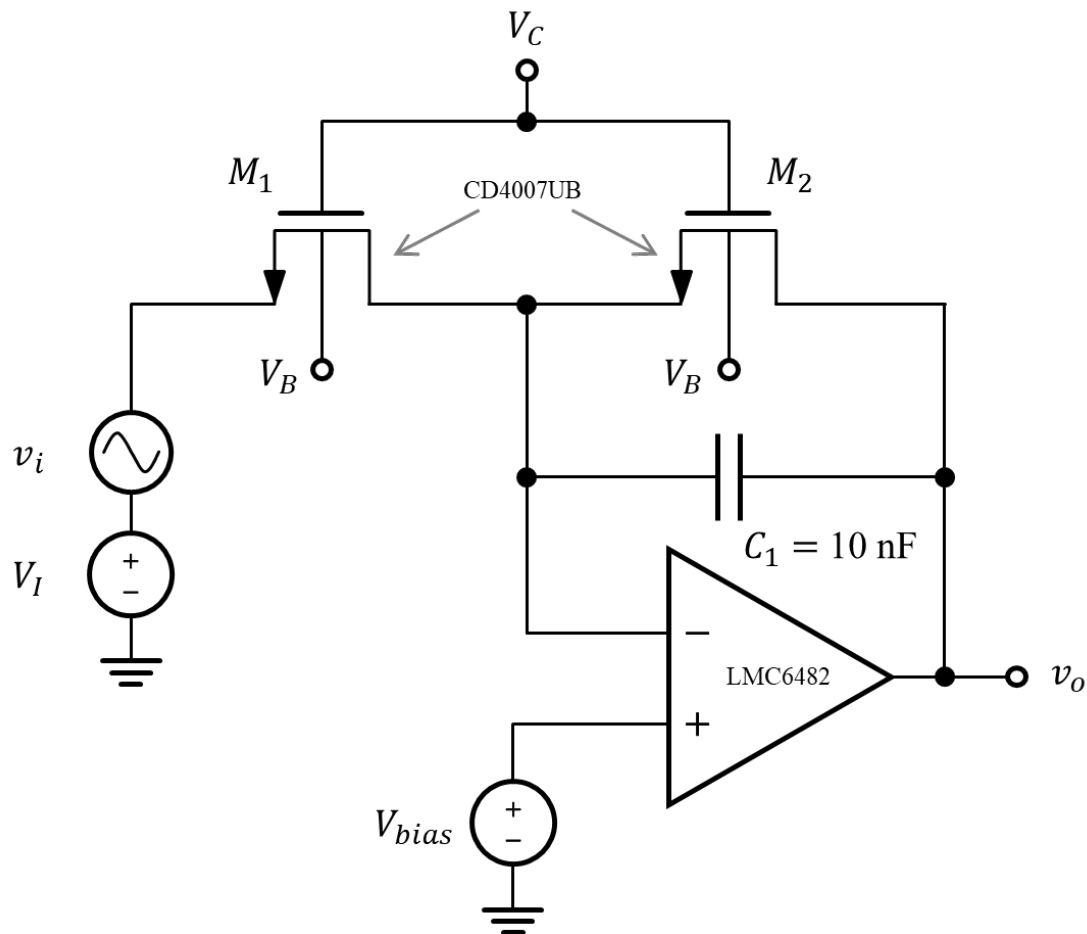

Figure L3.3 Bandwidth-controlled unity-gain amplifier circuit biased with the same scheme as the gain-controllable amplifier.
- (a) Hook up the circuit in Fig. L3.3 using the same voltage divider connected to the body terminals of your MOSFETs and the noninverting input of your op amp, being sure to measure the actual value of C_I using the capacitance meter on your DMM. Using the waveform generator, apply a 200 mV_{PP}, 1-kHz sine wave to the input of the circuit, again setting the offset V_I to be equal to the measured value of V_{bias} . Use the oscilloscope or the network analyzer to measure the low frequency gain v_o/v_i and 3-dB bandwidth of this amplifier for values of control voltage V_C ranging from 0 V to 5 V, in steps of 1 V. Again, be sure to record the actual DC gate-to-source voltage V_{GS} for each value of V_C . Even if you choose to use the network analyzer, you must include at least one scope plot for each value of V_C to verify your waveforms are not distorted. If they are, you may adjust your input signal’s offset voltage and amplitude to try and eliminate any distortion. Tabulate your data using the “measured” sections of Table L3.2 in the *Results Sheet for Laboratory Exercises*, then plot the gain versus V_C and 3-dB bandwidth versus V_C on separate graphs.